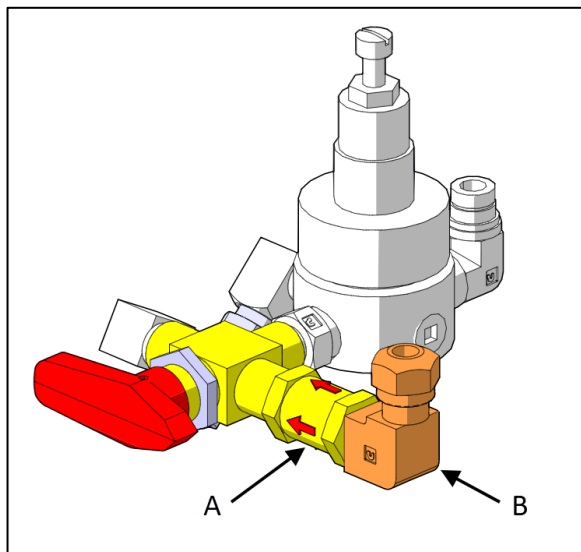

FIGURE 7
15. Install check valve (item A, Figure 7) with the arrows pointing toward the valve.
16. Install 90° elbow on the check valve (item B, Figure 7).